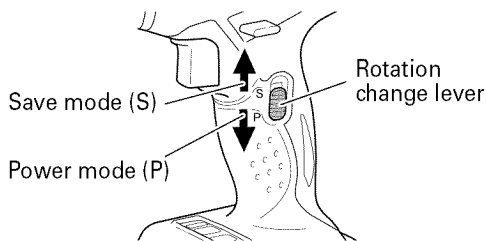

Fig. 9
As shown in Fig. 9, when the rotation change lever is slid to the lower side, the power mode (P) is set. And when slid to upper side, the save mode (S) is set.